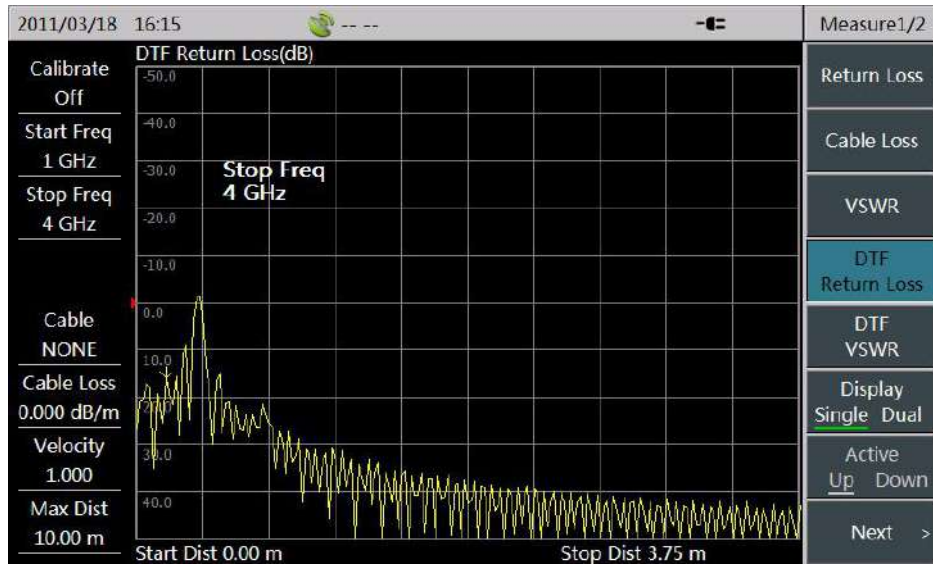

Figure 3-2 Measuring format Select
- 2) Select [DTF Return Loss] menu to set the current measuring format to DTF Return Loss, as shown in Figure 3-2: